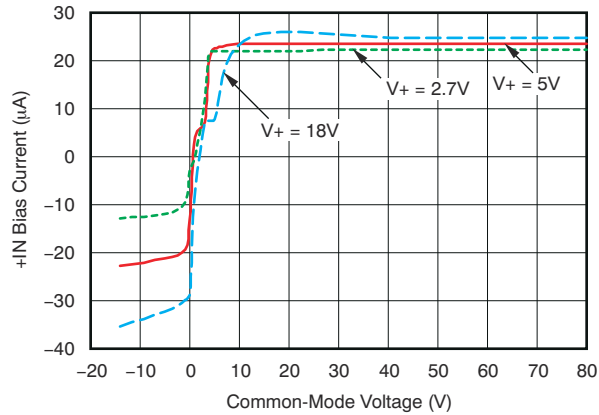

Figure 6-7. INA283-Q1 +IN BIAS Current vs Common-Mode Voltage
- (1) RTI = referred-to-input.
- (2) See typical characteristic graph Figure 6-7.
- (3) The average of the voltage on pins REF1 and REF2 must be between V_{GND} and the lesser of $(V_{GND} + 9\text{ V})$ and V_+ .